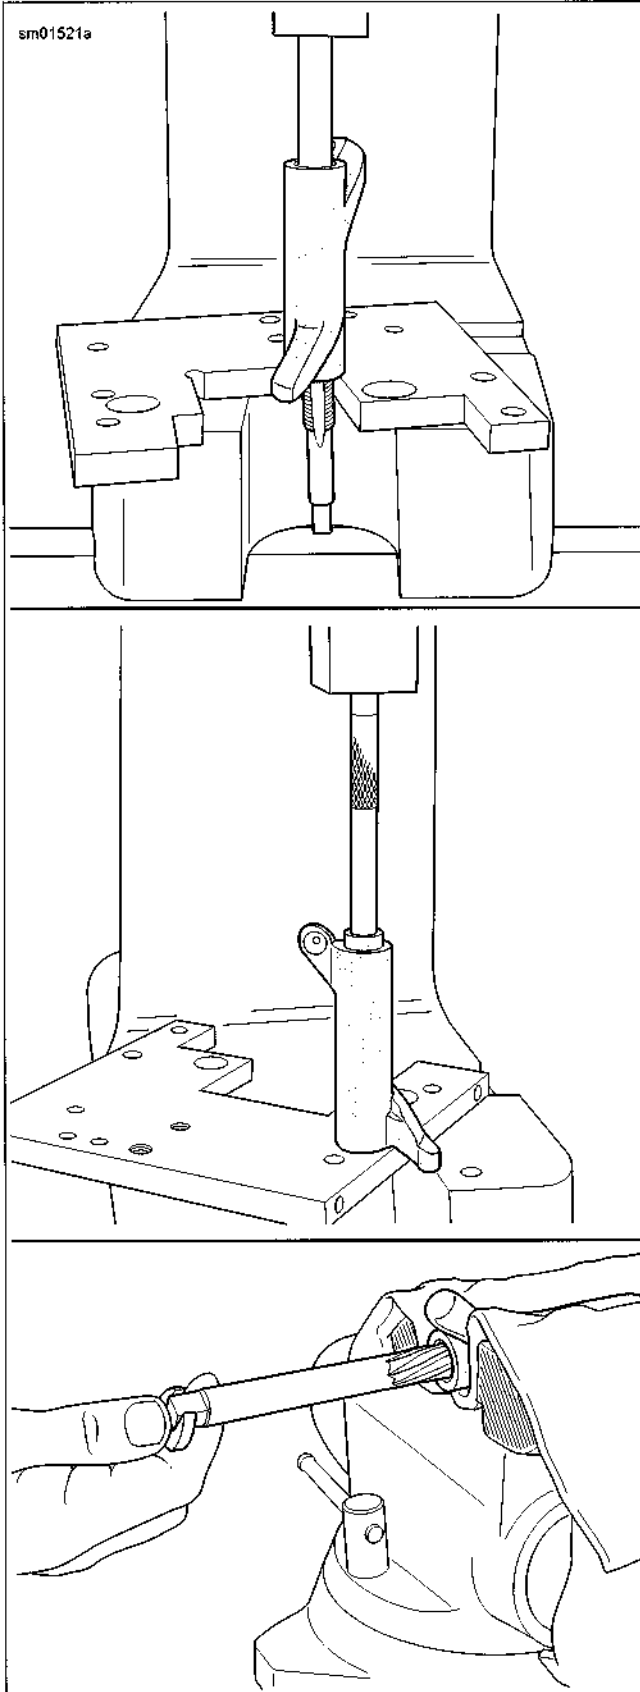

Figure 3-34. Replacing Rocker Arm Bushings
1. See Figure 3-34. To replace worn bushings, press or drive them from the rocker arm. If bushing is difficult to remove, turn a 9/16-18 tap into bushing. From opposite side of rocker arm, press out bushing and tap using a discarded rocker arm shaft.